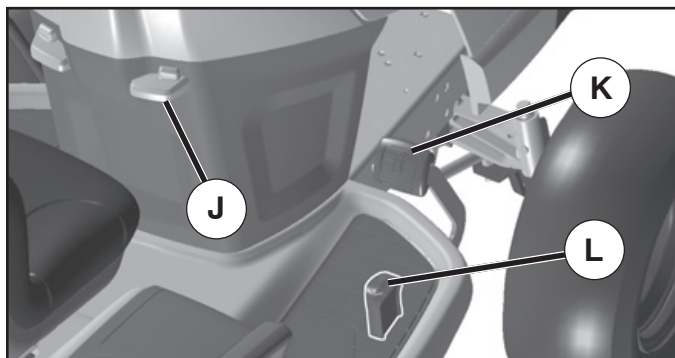

Fig. 7
(See Fig. 7)
TO USE CRUISE CONTROL (J) (See Fig. 7)